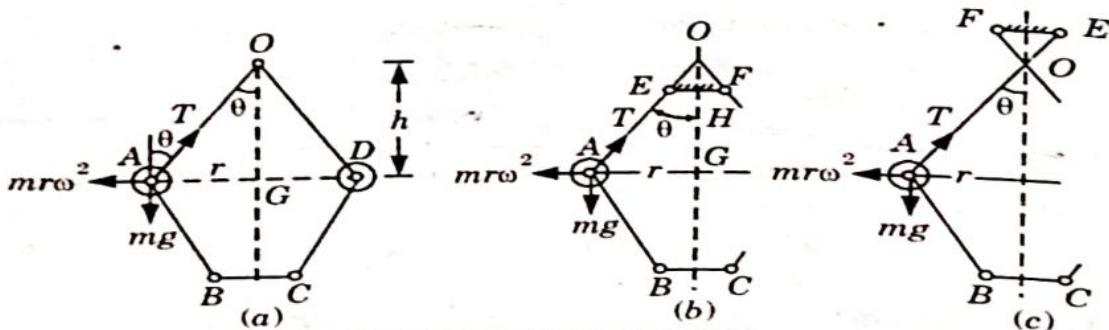

Fig. 4.17.1. Watt governor.
- a. **Simple Watt Governor :** In Fig. 4.17.1(a), a simple Watt governor is shown. It has a pair of balls (masses) which is attached to a spindle by links. The upper links are pinned at point O .
- b. **Open Arm Type Watt Governor :** The configuration of Watt governor shown in Fig. 4.17.1(b) is of open arm type watt governor. Here upper links are connected by a horizontal link EF.
- c. **Crossed Arm Type Watt Governor :** The configuration of Watt governor shown in Fig. 4.17.1(c) is of crossed arm type watt governor. In this, upper links cross the spindle and connected by horizontal link forming a cross arm type configuration.